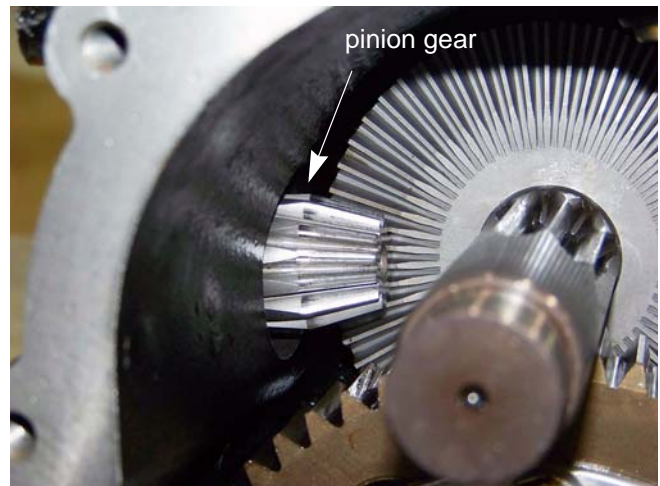

Figure 5.45
23. Remove the 13T input pinion and ball bearing from the right transmission housing using a wooden dowel. See Figure 5.45.